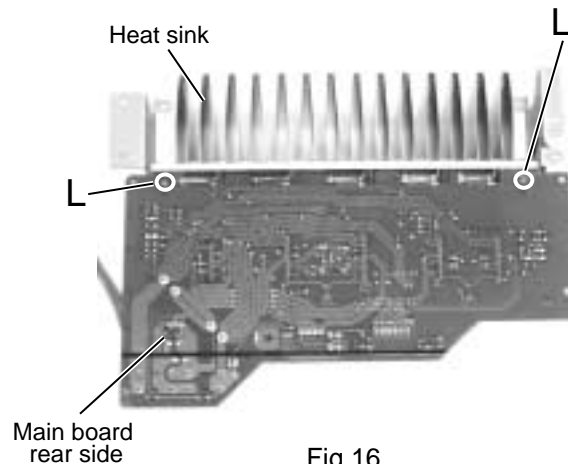

Fig.16
■ Removing the Amp board (See Fig.16 to 17)